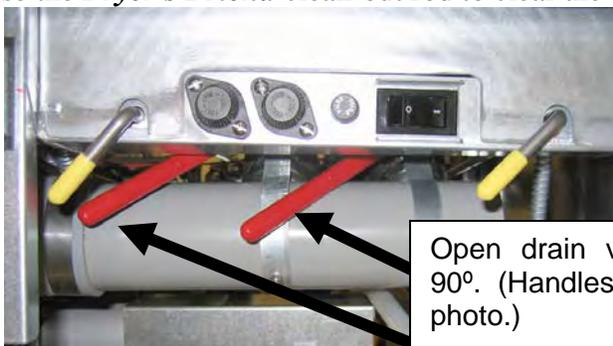

Figure 5
3. Drain the frypot into the filter pan by rotating the drain valve handle 90° (see Figure 5). If necessary, use the *Fryer's Friend* clean-out rod to clear the drain from **inside** the frypot.